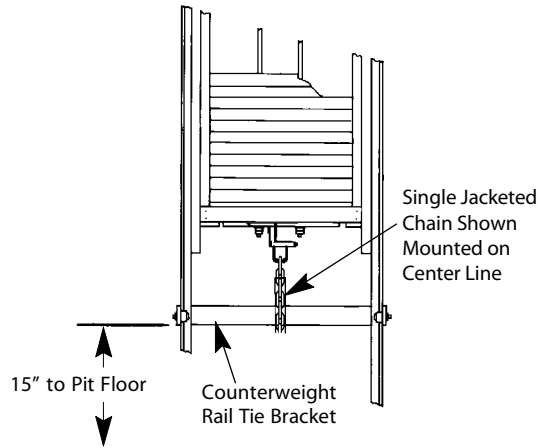

Figure 15 - Counterweight Tie Bracket Location
1. Mount the counterweight rail tie bracket to the counterweight rails. Ensure that it is level. See Figure 15.